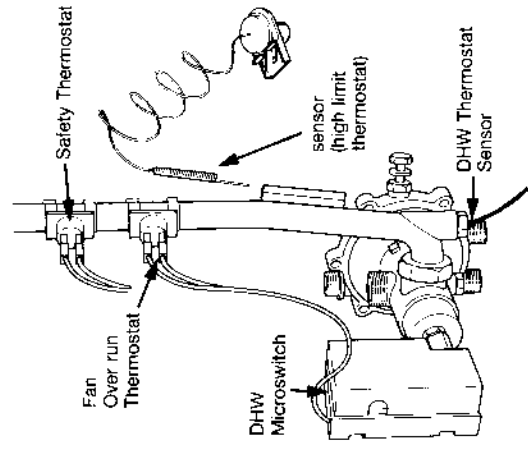

Fig. 45
- Refer to figs. 45 & 46
- 8.22.28** Refer to figs 45 & 46 to ensure correct location of thermostat and push-on wiring tabs.